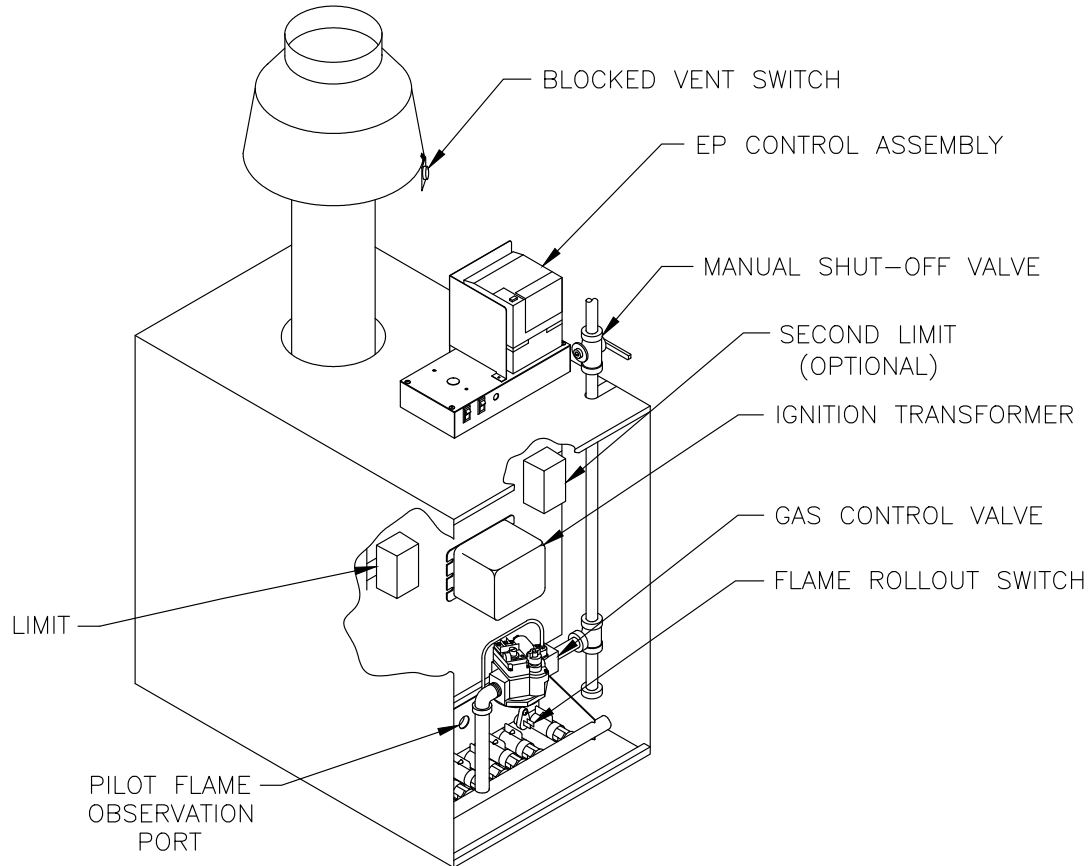

Figure 2: Control Locations (120V Control Systems)
6. **120-Volt Intermittent Ignition (EP)**. See Figure 2. The Intermittent Ignition System consists of: